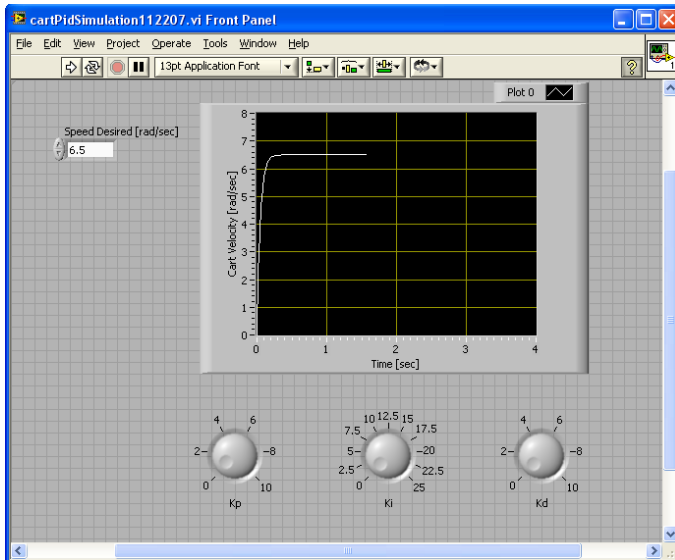
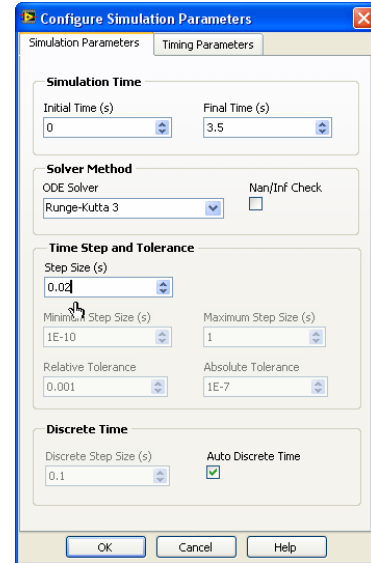
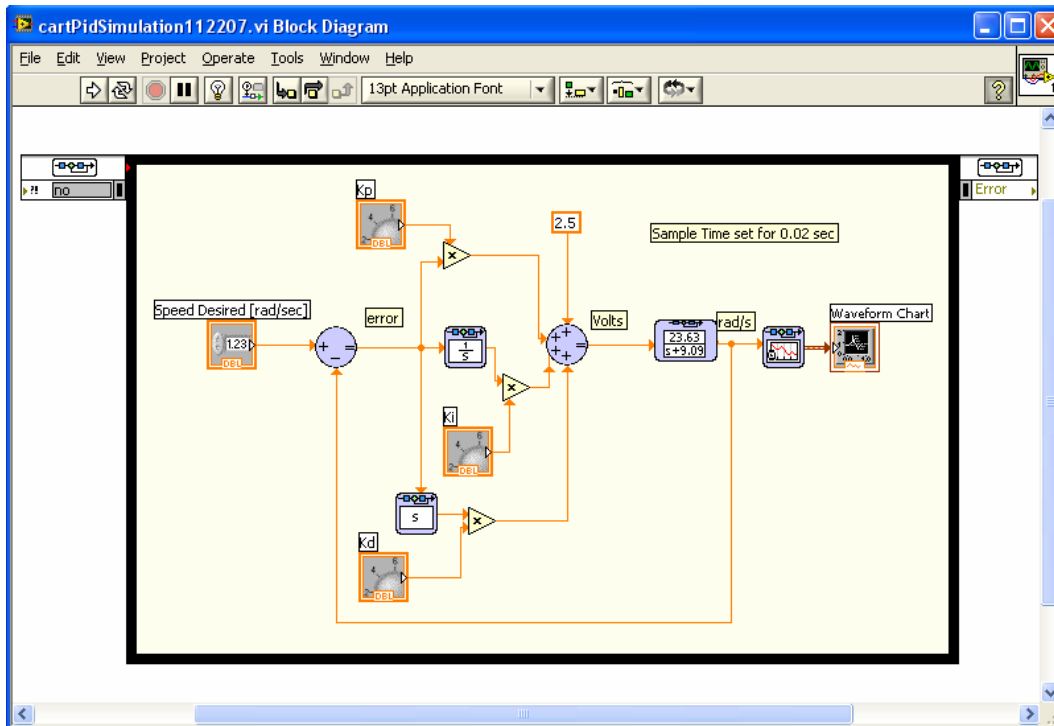

Figure 2-1A: PID Simulation Front Panel
Figure 2-1B: Simulation Parameters
Figure 2-1C: PID Simulation Block Diagram
Step 1: Create the following Front Panel (**Figure 2-1A**) and Block Diagram (**Figure 2-1C**). Note: set the Step Size to 0.020 seconds (**Figure 2-1B**). Save as `cartPidSimulation1_0.vi`